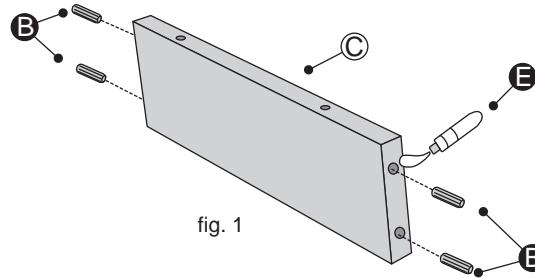

fig. 1
1. Place a small amount of Glue **E** into the dowel holes. Insert Dowels **B** into the Base End Panels **C**. See fig. 1.